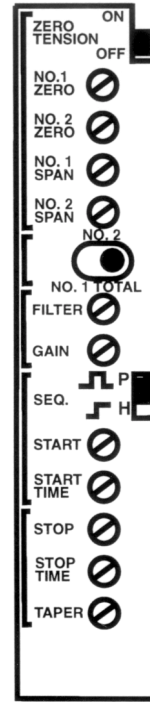
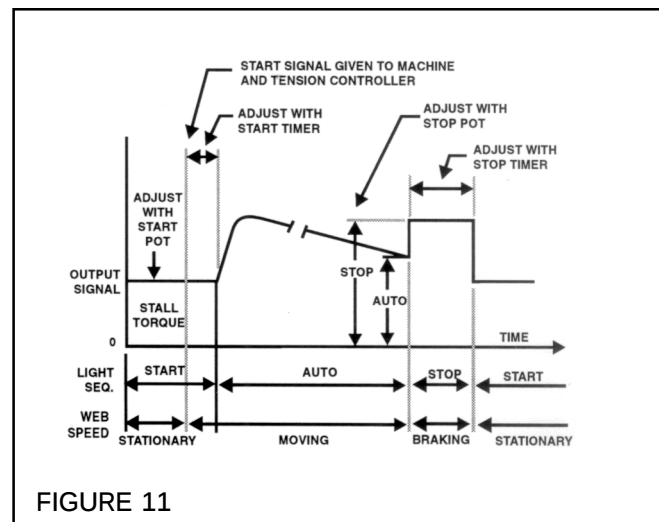

FIGURE 7
FIGURE 11
4. Set the Zero Tension Switch to OFF (See Figure 7).
4. Set the Selector Switch to NO. 1 (See Figure 7).
4. Set the Selector Switch to **NO. 1** (See Figure 7).
The START pot controls the amount of brake torque applied as a hold back to prevent web sag from drawing material off the unwind roll while the machine is standing idle (See Figure 11).
Start torque (stall torque) can be changed with the START pot (See Figure 7). Normally this torque is set so that the roll will not unwind due to web sag while the machine is standing idle.
For rewind and midrange control, the START and START TIME pots are normally set to zero (See Figure 7).
When the machine is stopped, the output signal immediately rises to brake an unwind roll to prevent run on or coasting. This will prevent web spillage and maintain tension in the web (See Figure 11).
1. The rise in the output signal is controlled with the STOP pot (See Figure 7). If the STOP pot is set at 0 the output signal will not rise, it will stay the same 1:1 ratio. If the pot is set at maximum, the output will triple (3:1 ratio). A midrange setting equals (2:1 ratio) (See Figure 11).
2. This braking level is maintained for a period of 0-10 seconds as selected by the STOP TIME pot (See Figure 7).
3. When the time selected with STOP TIME has elapsed, the Tension Controller output returns to the start torque level. At this time, the start lamp lights and the machine is ready to start (See Figure 11).